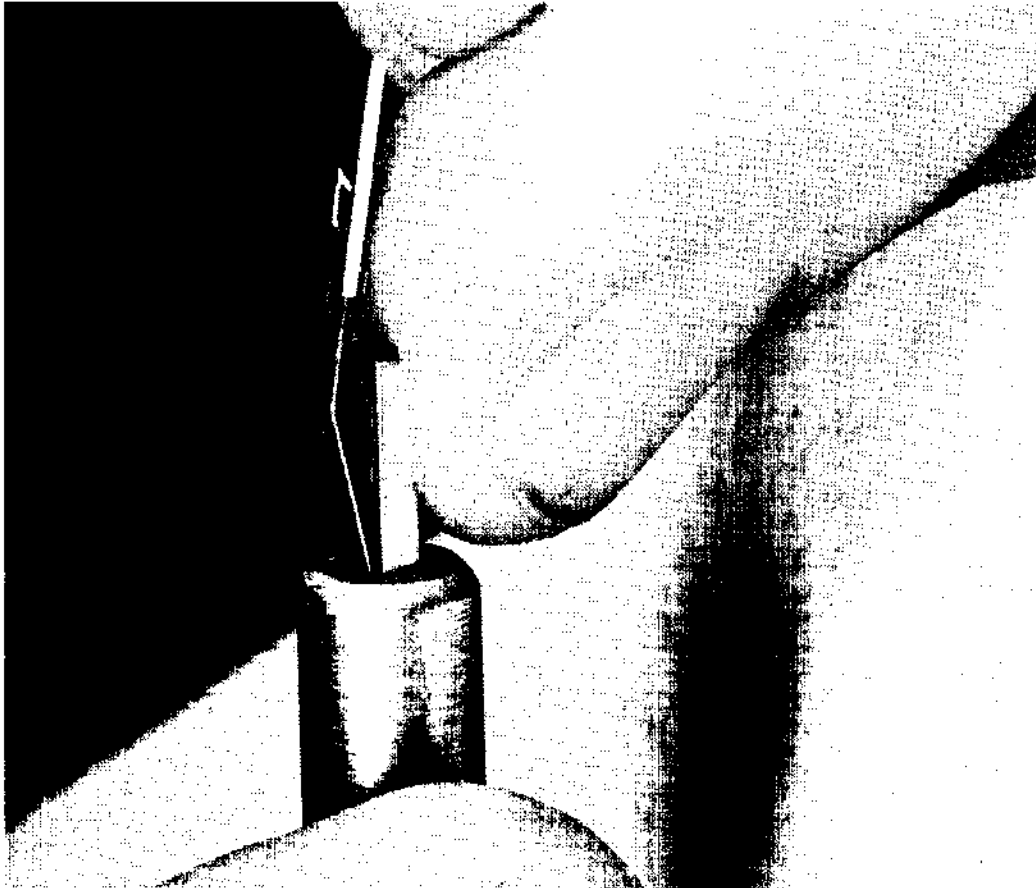
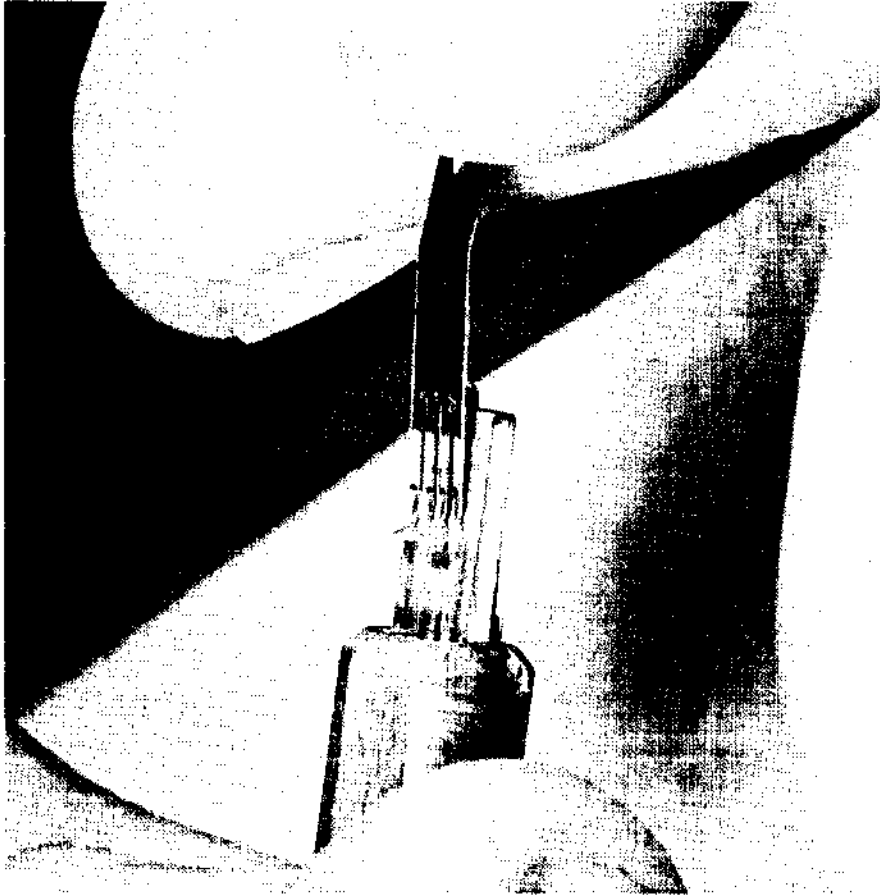

Figure 5-7
Figure 5-8
- h. Insert the solid contact (P/N 373-30052-2) in the insertion tool with the bend to the outside and the solder end up (see figure 5-7). Insert the split contact (P/N 373-30053-2) with the split end in first (see figure 5-8).